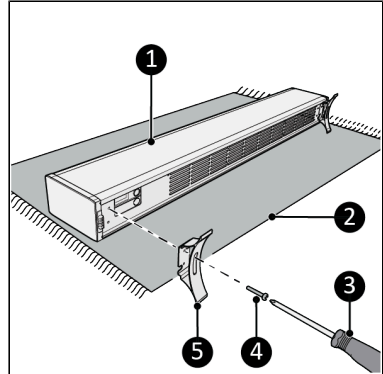

Figure 23.
1. Lay the device down on a steady soft surface (Figure 23, pos. 2).
2. Place the pedestals (Figure 23, pos. 5) on both sides of the main body (Figure 23, pos. 1).
3. Screw and tighten the pedestals with a small screw (Figure 23, pos. 4) using a Phillips screwdriver (Figure 23, pos. 3).